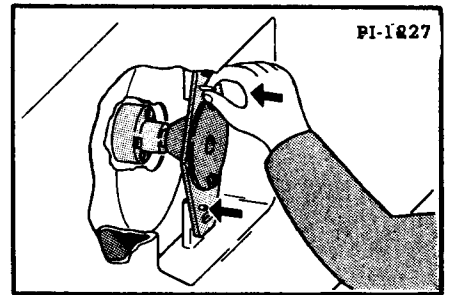
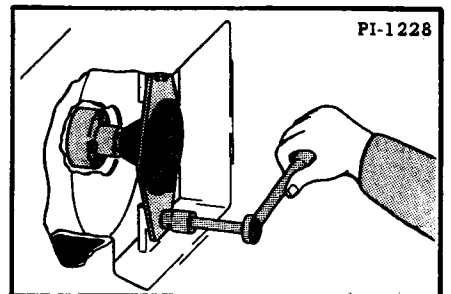

Fig. 152 Insert the Aligning Pins
Fig. 153 Bolt Mounting Plate in Place.
6. Slide the pump mounting plate and hub over the aligning shaft. The pump mounting plate should rest flatly against the pump mounting brackets (welded to the Bobcat frame). Insert 1/4" aligning pins through the drilled aligning holes in the pump mounting plate and the mounting brackets (Figure 152). You may find it necessary to shift the engine slightly or to bend the pump mounting brackets to secure a flat contact between the mounting plate and brackets.
7. Bolt the pump mounting plate securely in place (Figure 153). Bolt the engine securely to its mountings.
13. Install the pump and its mounting plate and secure the plate in position with the aligning pins (Figure 152). Bolt the pump mounting plate securely in place (Figure 153). The pump drive adapter and the pump drive shaft must be secured together.